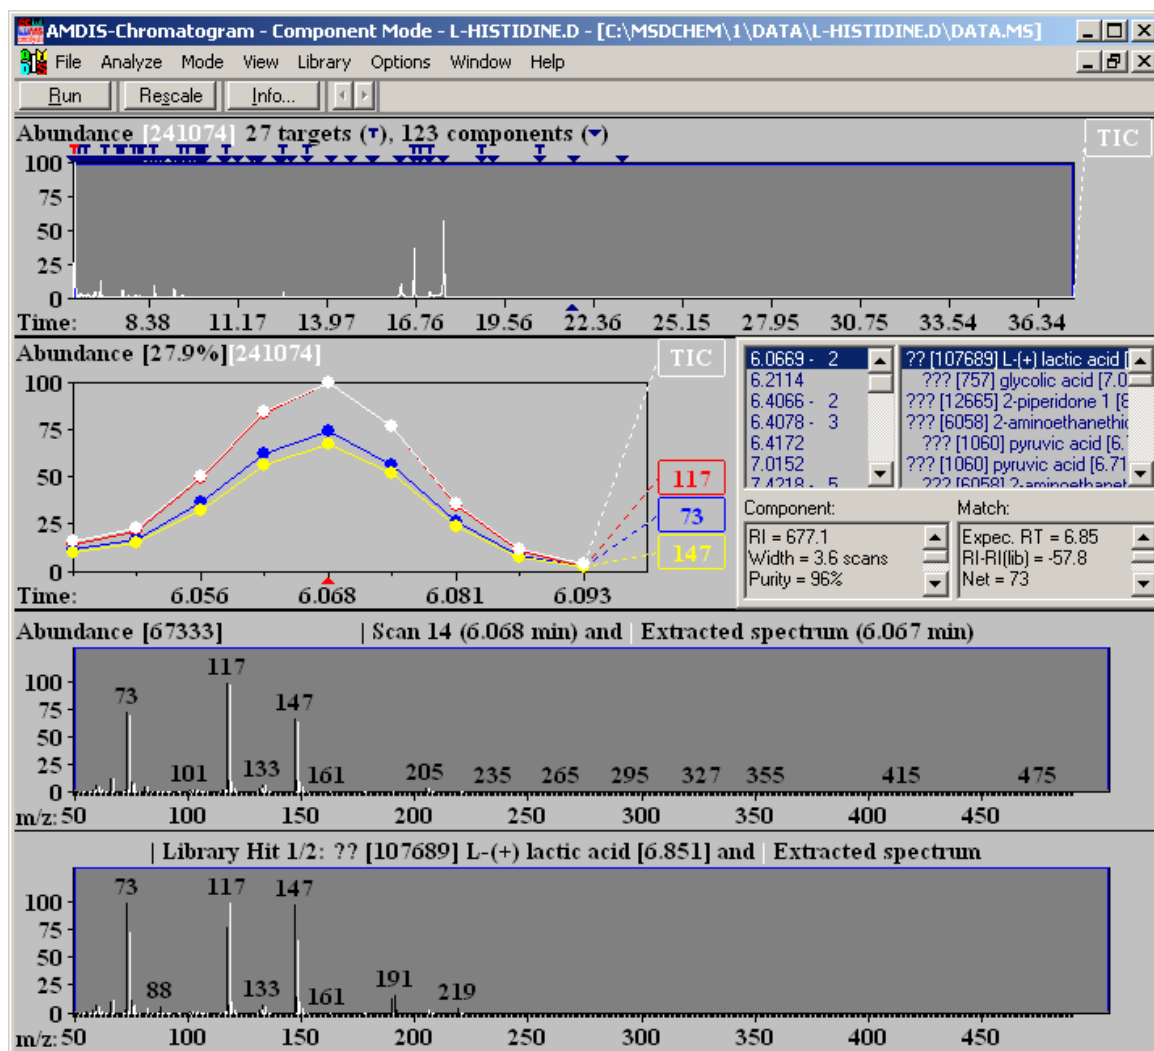

Figure 9 AMDIS after performing a Use RI Calibration Data run
- 5 Click **Run** to analyze the data file. See Figure 9.